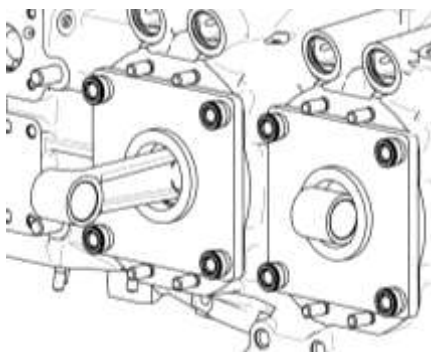

Figure 21
- (1) Install Torque Hold-Down Plates (ST-222) as shown in Figure 21.